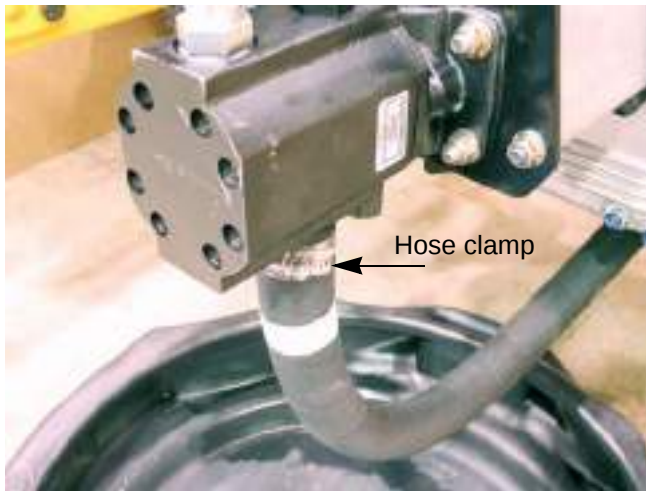

Figure 2.10
2. Loosen the hose clamp that secures the suction hose to the pump. See Figure 2.10.